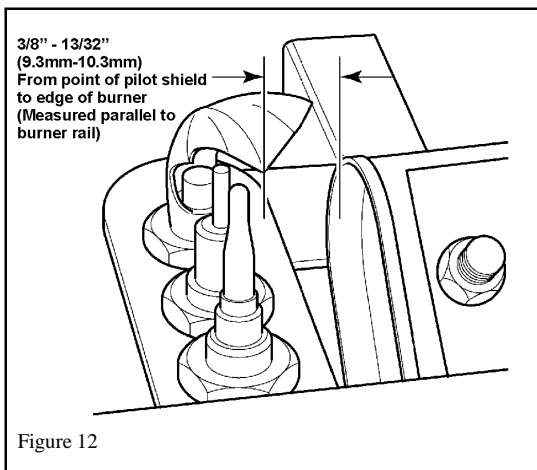

Figure 12
14. Check the pilot position relative to the burner. See figure 12. Check ignition spark (refer to main instructions).